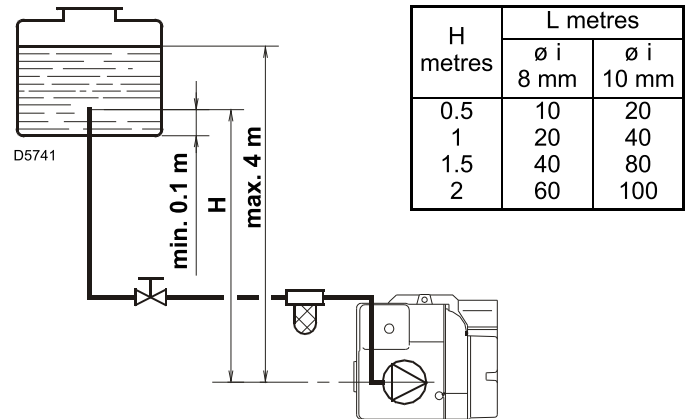
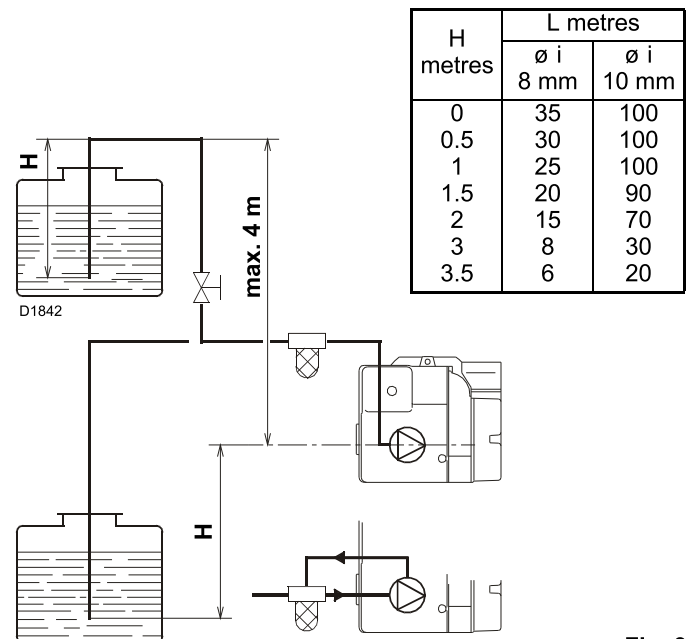
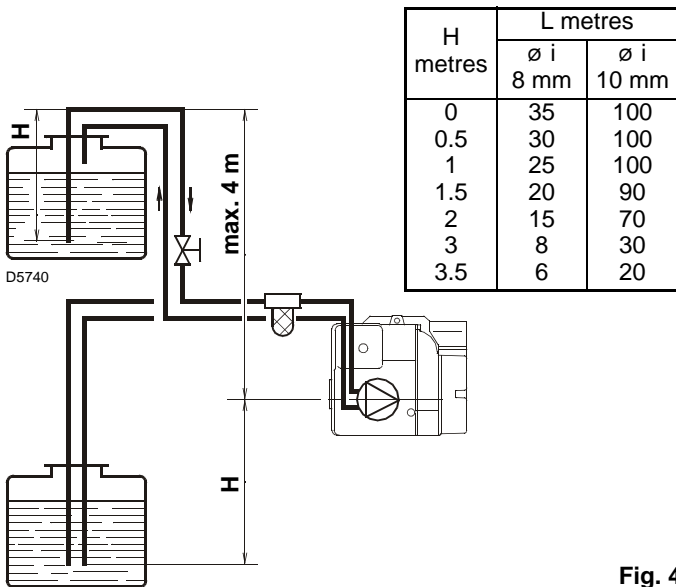
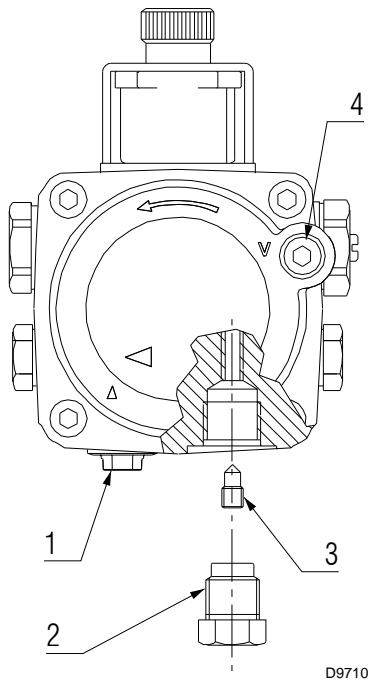

Fig. 2
Fig. 3
Fig. 4
Fig. 5
- Only necessary with one-pipe systems (Fig. 2). In the system of Fig. 2, just loosen the connection of the vacuumeter 4) (Fig. 5) and wait for the fuel to come out.
- In the systems of Fig. 3 and Fig. 4, the air is expelled automatically following burner start-up.
Key (Fig. 2, Fig. 3 and Fig. 4)
The pump (Fig. 5) is suitable for two-pipe operation, except for the pump code 20034559.
Key (Fig. 5)
The oil supply (Suction 1) (Fig. 5) blanking plug is made from plastic material. Once removed this should be discarded and not reused under any circumstances.